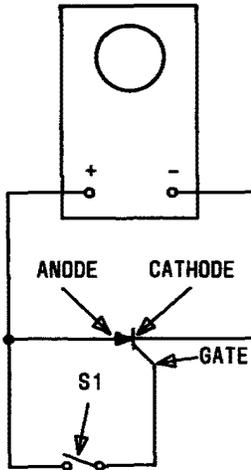

Fig. 6—SCR Test Set-Up
- (1) Connect an ohmmeter as shown in Fig. 6.
- (2) With the ohmmeter in the RX1 scale, operate switch S1 to the ON position.